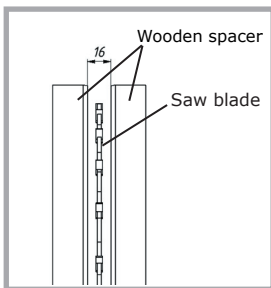

Figure 2
**If the maximum 16 mm spacing between clearance inserts (wood strips) is reduced because of excessive wear, provide for immediate replacement of the wooden inserts! (see figure 2)**